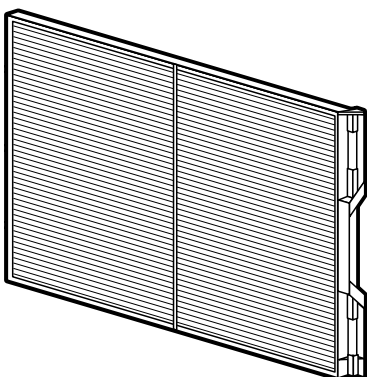
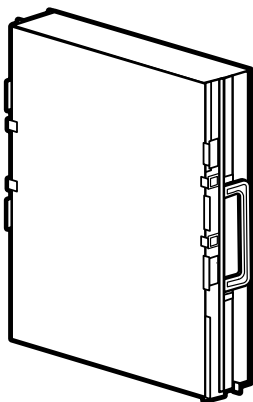

Figure 28
Figure 29
- Remove the PRE-FILTER (Figure 28) and/or the COLLECTION CELLS (Figure 29) from the air cleaner.